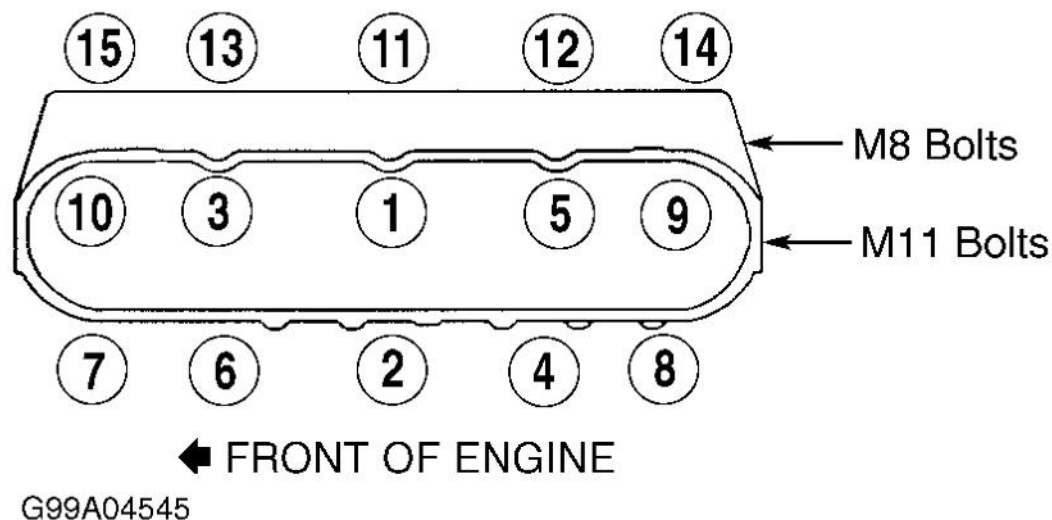

Fig. 339: Identifying Cylinder Head Bolt Tightening Sequence
(1) Tighten bolts following sequence as shown. See **Fig. 339**.